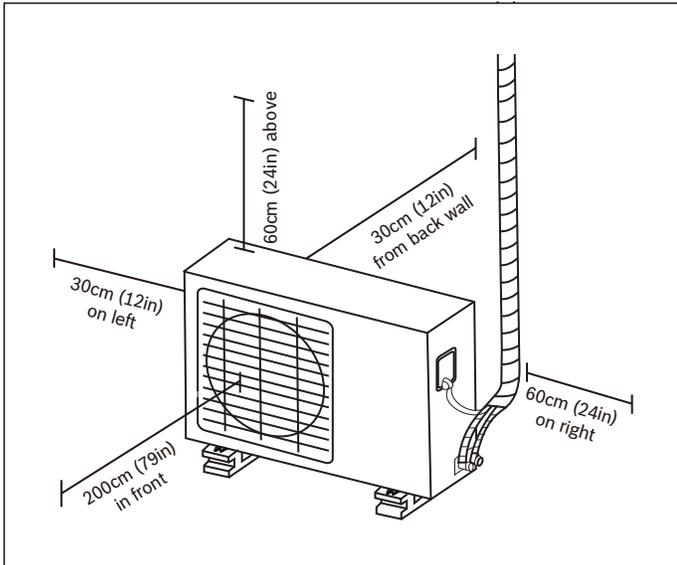

Figure 20
- Meets all spatial minimum requirements shown in Installation Space Requirements ( Fig. 20 )